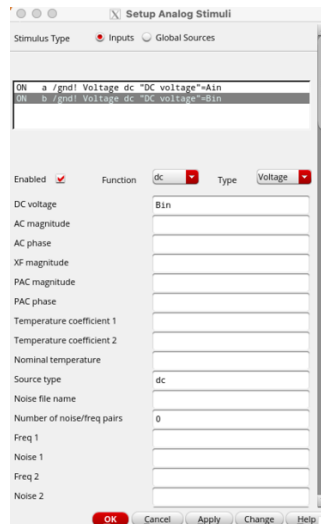

Figure 4: Setup Analog Stimuli
- **Create Stimuli:** Setup • Stimuli (see Figure 4) • Inputs